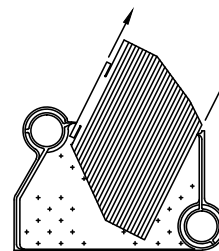

Figure 47: Boiler Flueway Cleaning
8. Check burners to be sure they do not contain foreign matter or restrictions. Clean burners with a soft bristle brush, blow any dirt out with compressed air or use a vacuum cleaner. See Figure 47.
E. Clean Boiler Flueways. See Figure 47.
5. Remove flue baffles. Refer to Figure 47 for instructions on how to remove baffles from flueways. Remove any accumulated scale or soot.
6. Thoroughly clean flueways with flue brush, removing all scale and soot. See Figure 47.
8. Reinsert baffles into flueways by reversing steps given in Figure 47. Tabs at top of each baffle should rest on top of flue pins.